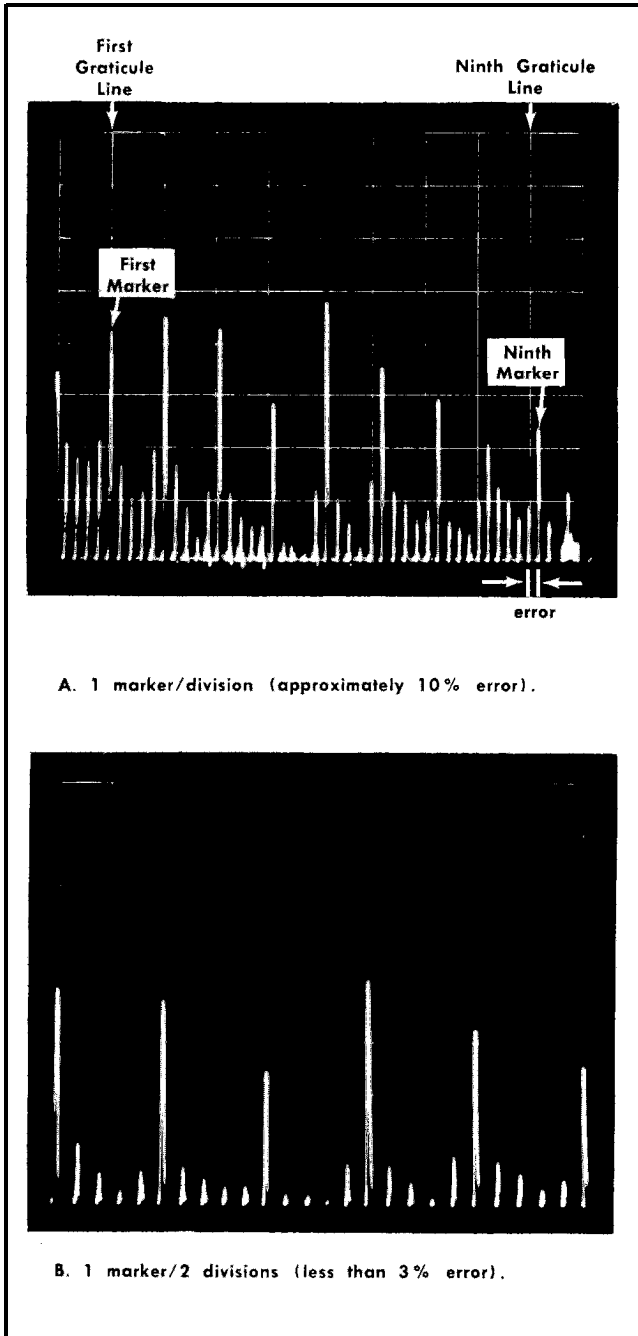

Fig. 6-20. Measuring dispersion accuracy.
Dispersion accuracy is a measure of the frequency dispersion error within 8 divisions of a 10 division display. It is measured by positioning the 1st frequency marker on the 1st graticule line, then noting the dispersion error as the distance the 9th marker is displaced from the 9th graticule line. See Fig. 6-20.
c. Adjust the Type 491 GAIN control for a display amplitude of approximately 6 divisions. See Fig. 6-20. Set the SOURCE switch to LINE and adjust the LEVEL control for a triggered display.